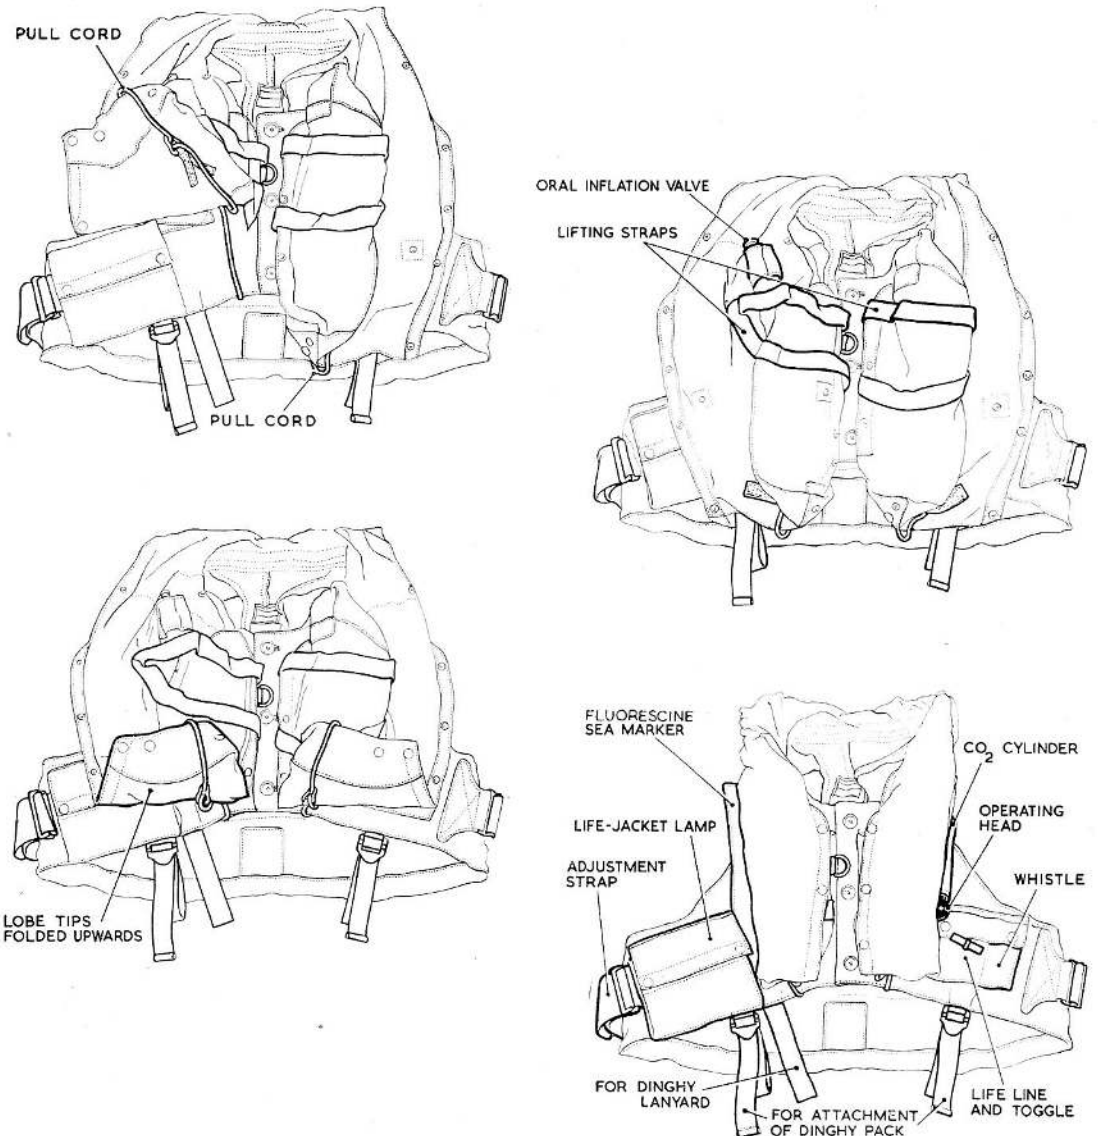
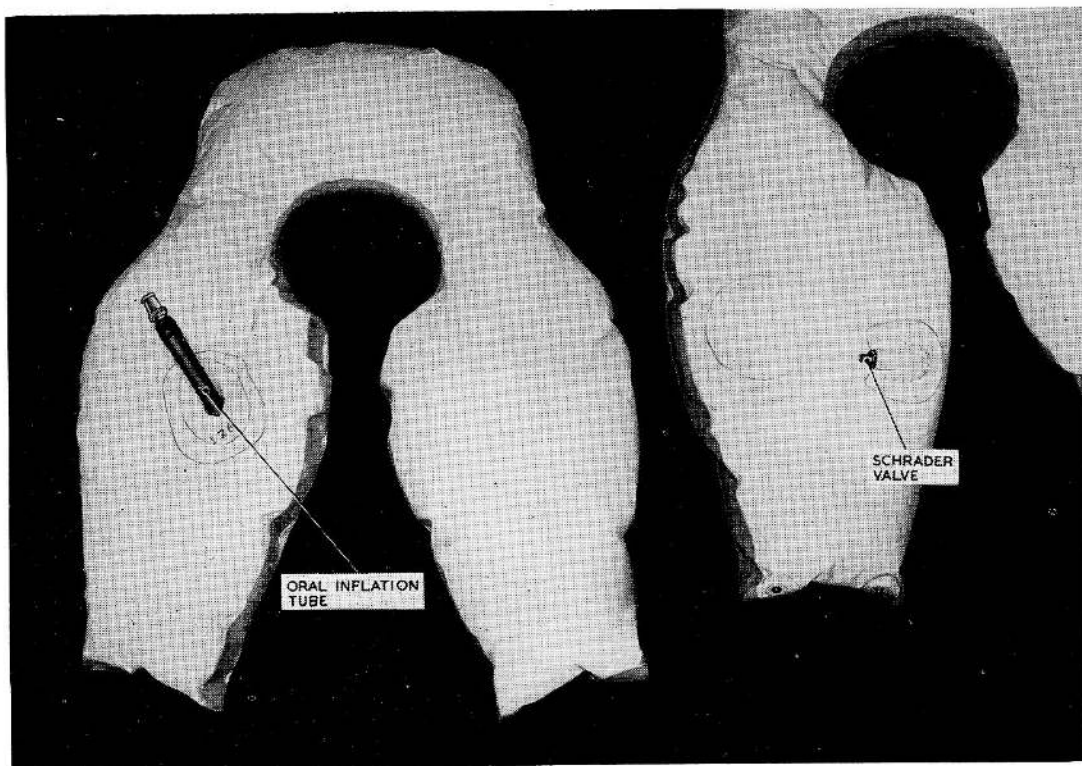

Fig. 3. Folding the life jacket
Fig. 4. Stole
7. The waistcoat (*fig. 3*), which incorporates the stole cover, is made of fabric dyed yellow, and the stole (*fig. 4*) is made of rubberproofed fabric. The life jacket buttons at the front and can be adjusted for size by a webbing waistband with non-slip buckles. The dinghy pack is attached by two quick-release fittings, secured to adjustable straps, one on each side in front of the life jacket. The dinghy lanyard is connected to a third quick-release fitting attached to a webbing loop on the right-hand side of the life jacket.
lobe tip upwards and fasten it in position with the snap fasteners, and then fold the outer half of the lobe inwards and fasten it in position. This sequence is illustrated in fig. 3. Fold back the head rest and clip it in place.